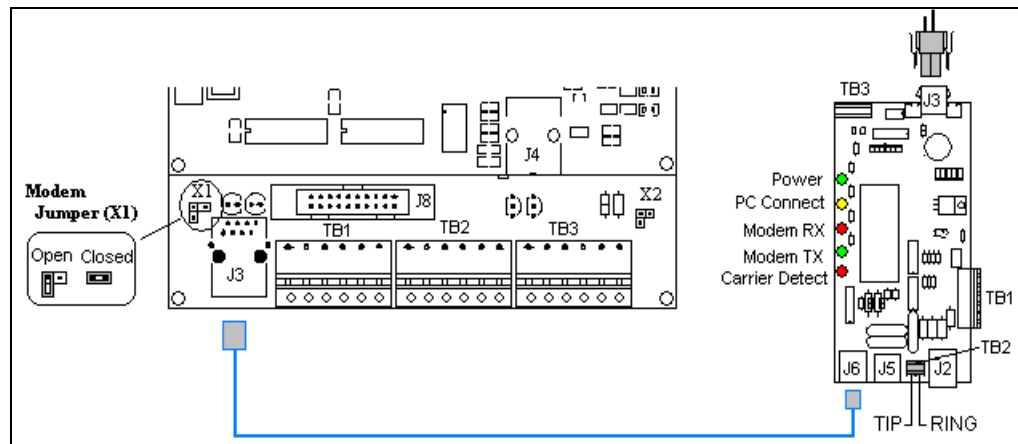

Figure 28: Modem/Signal Connections
- Drawing B-177662 and Figure 28** shows the terminal block wiring.